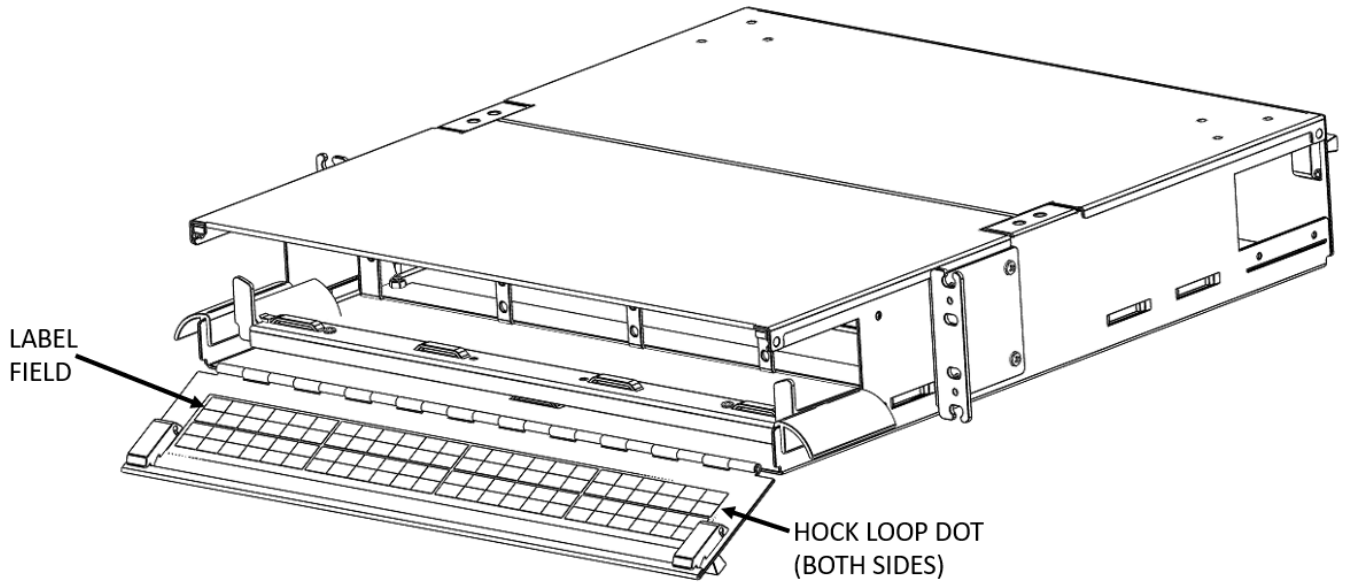

Figure 3
5.4) Mate each Hook with a Loop dot. Remove protective backing from Hook or Loop and attach to underside of identification label, as required. Remove backing from the remaining side. Put label into place and press against the door to secure, approximately where shown (Figure 3).